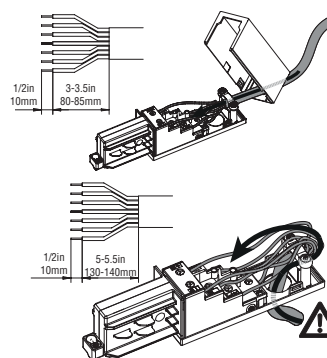

Figure 3
3. Using Wire Strippers, strip back the wires to the desired length. **Figure 3**